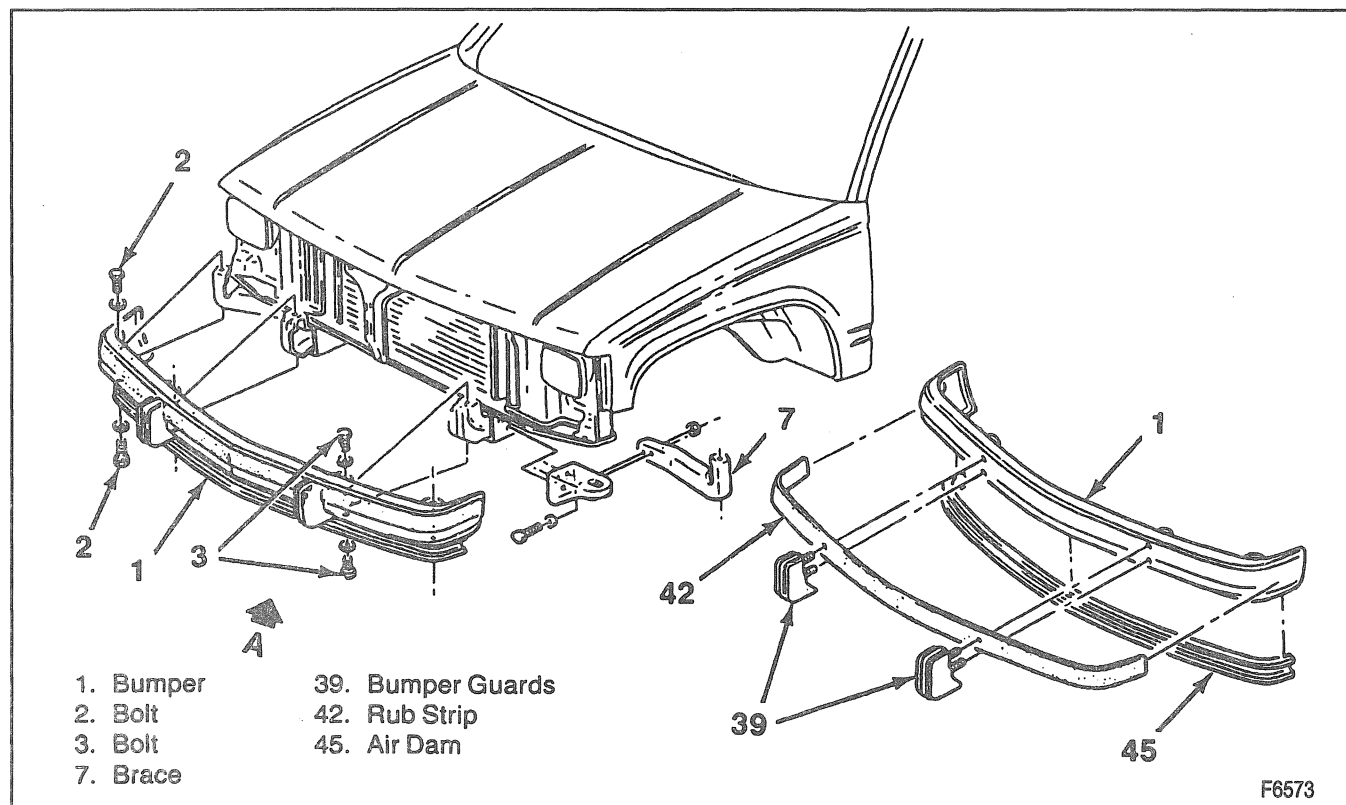

Figure 5—Bumper Assembly Components
5. Guards from the bumper (if equipped) (Figure 5).